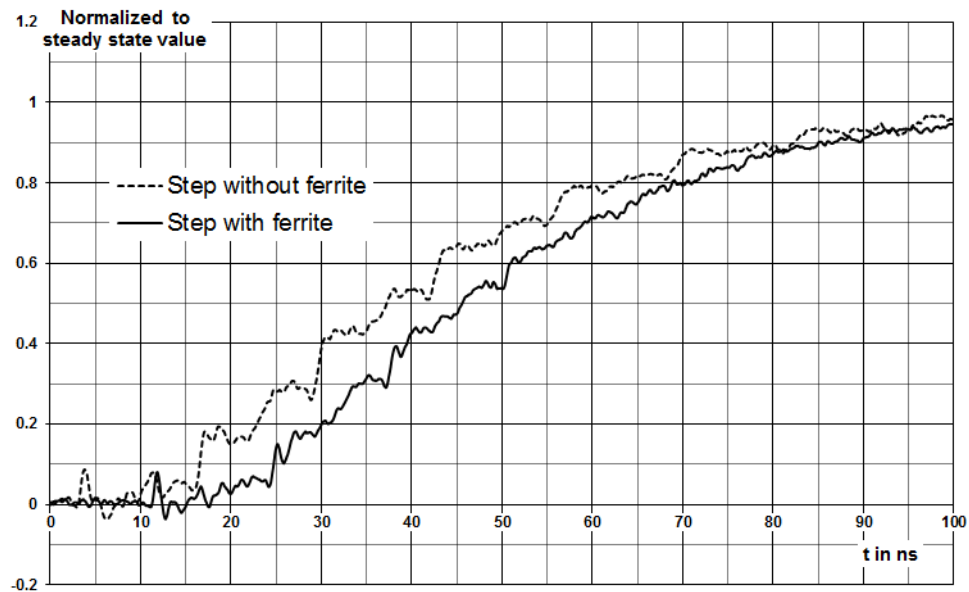

Figure 4-2: Improvement with additional hinged ferrite cores
In Figure 4-2, you can see the improvement in the signal integrity. The curve "Step with ferrite" is artificially delayed for 8 ns for a better view. The ferrite cores do not add any additional delay. The most significant improvement can be seen with the R&S RT-ZHD60 in the "Mode">"Attenuation High" and 5 MHz low pass (LP) on.